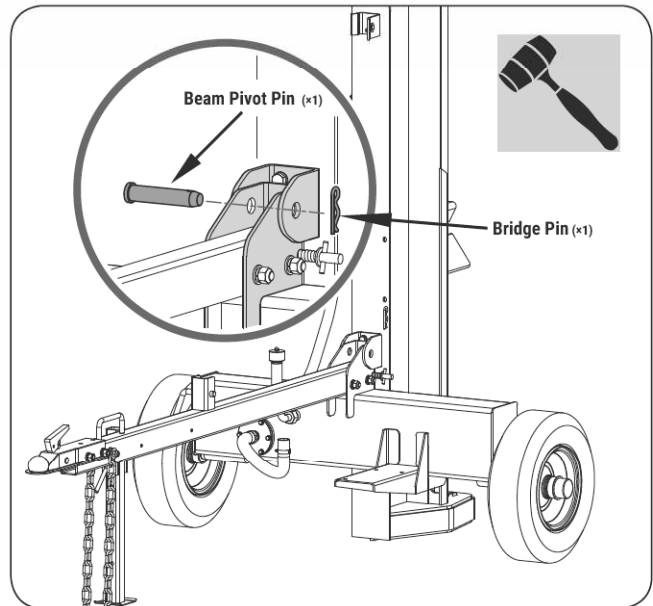

Figure 8b
2. Align the pivot bracket on the beam assembly to the pivot mount on the tank weldment and insert the beam pivot pin and washer. (See **Figure 8b**.)